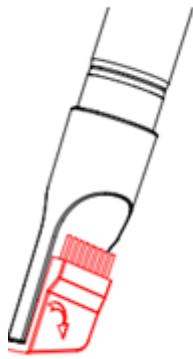

Fig. 10
1. As in fig.10, you can use the compressed brush in the corner and the aperture.